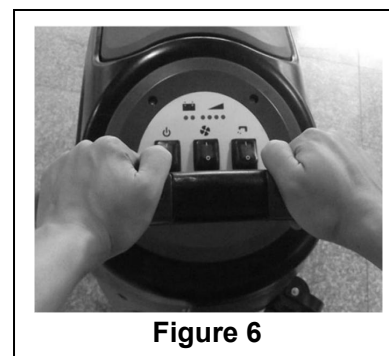

Figure 6
By experience, the method to move the machine shown on right Figure 6 is more suitable, the users feel more comfortable on hands, it reduces work fatigue. So the users are recommended to move the machine in this way.
2. Hold the safety switch (1) (according to the way shown in **Figure 6**), push to move the machine, and start the cleaning job.